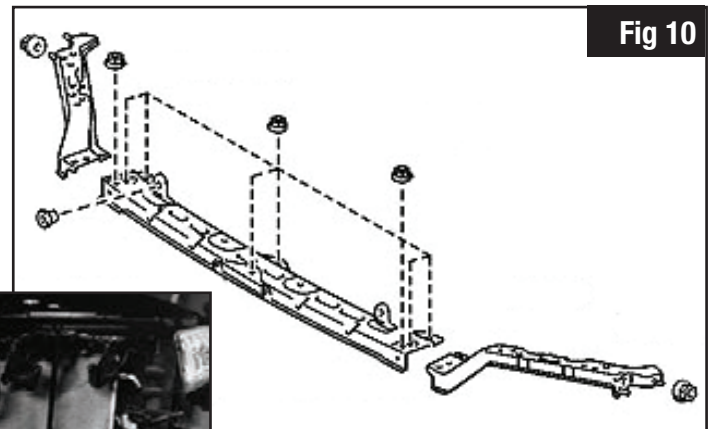

Fig 10
Q) Remove front upper center bumper retainer (cross member) and both right and left front bumper end retainers. **Fig 10.**